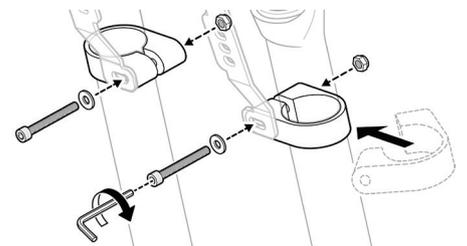

Figure 2 Install fork arm clamps.
- Position the fork arm clamps on the fork with the openings facing toward the center, and the mounting points aligned with the lock mount arms (see Figure 2). The nut pockets on the clamps should face the front of the bike.